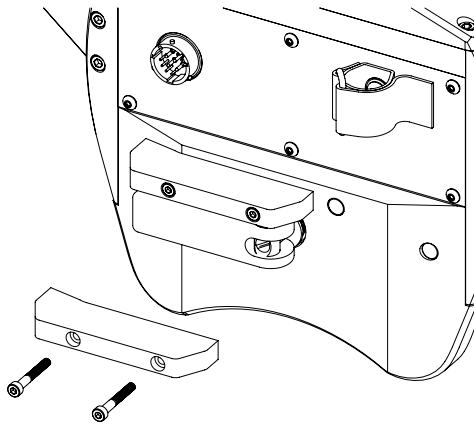

FIGURE 19 - Latch Guard Removal
1. The first step in adjusting the clamp latch tension will be to remove the bottom guard from the clamp latch. *Note: This step is not required for machines with code number 12785.* See **FIGURE 19 - Latch Guard Removal**.